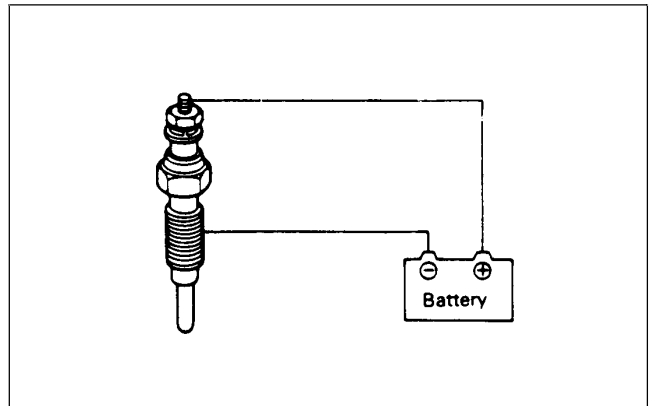

Figure 15
4. Connect the positive (+) battery terminal to the glow plug terminal, and the negative (–) battery terminal to the plug body (Fig. 15). If the glow plug glows red-hot, the glow plug is operating correctly.